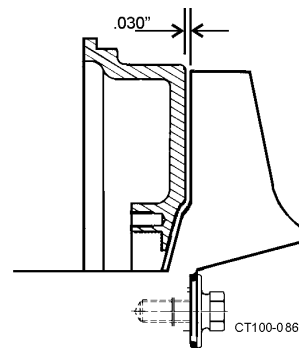
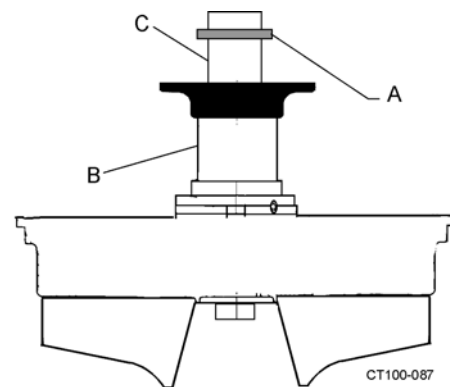

Figure 44 - Clearance Between Impeller and Backplate
Figure 45 - Locations of Shims
22. Check impeller/backplate clearance with the backplate held firmly in position against motor adapter. Check the space between the back of the impeller and the backplate with a feeler gauge (.030 nominal) while holding the backplate tight against the bearing housing flange. (Any axial movement of the shaft should not be added to the .030 nominal clearance). (Figure 44). If needed, change this clearance by adding or removing shims. Shims (Figure 45, item A) are added on the drive shaft (Figure 45, item C) behind the impeller shaft (Figure 45, item B).